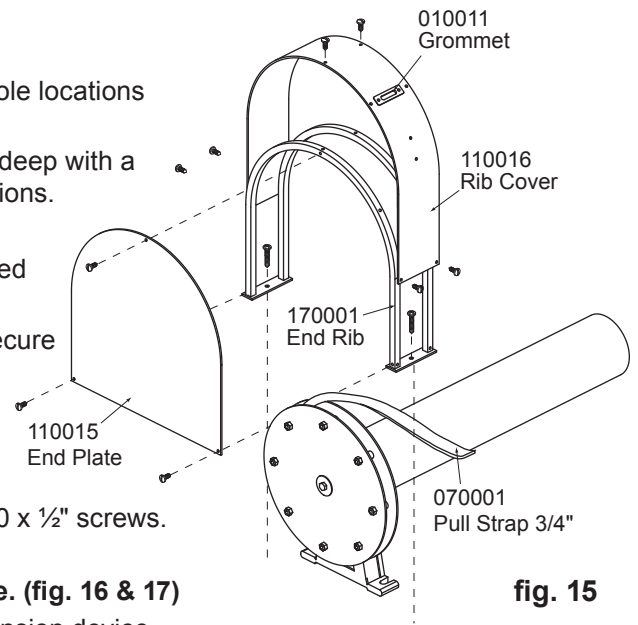

fig. 15
7.4 Install the end rib. (fig. 15)